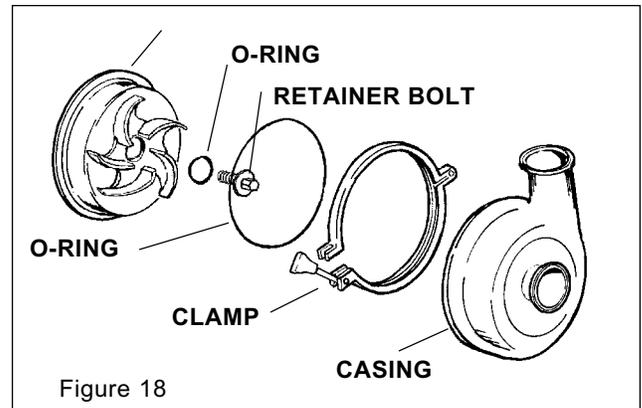

Figure 18
5. Remove impeller retainer bolt and shaft O-ring. (See Figure 18)